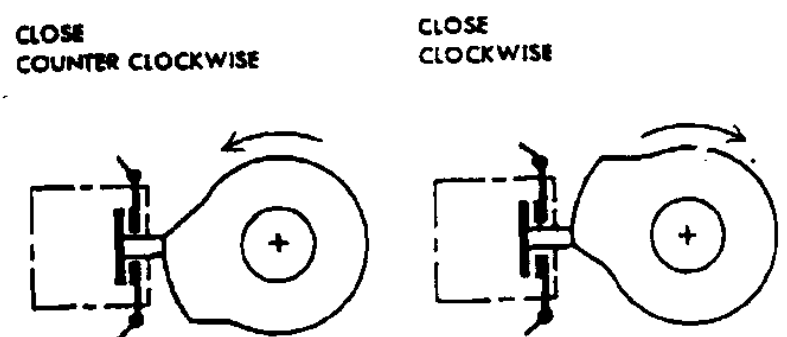

Fig. 6. Setting the OPENING limit switch.
b. Set the OPENING limit switch (2nd red cam from the top) as shown in Fig. 6. Make sure to tighten the hand nut at the bottom of the auxiliary switches after setting the opening limit switch.